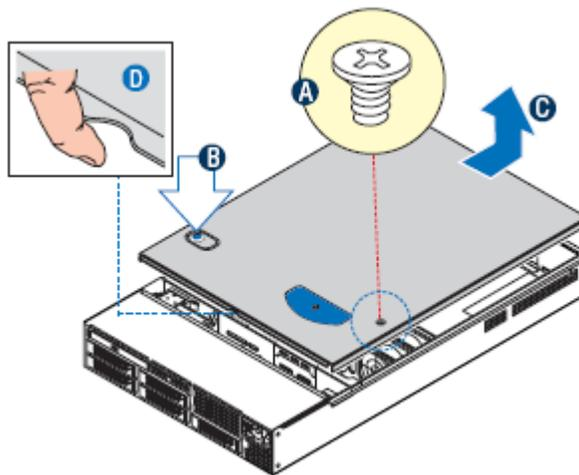

Figure 12: Server cover
1. Place the cover over the chassis so that the side edges of the cover sit just inside the chassis sidewalls. The front of the cover is about an eighth of an inch from the sheet metal at the front of the chassis. Refer to Figure 12: Server cover on page 70.